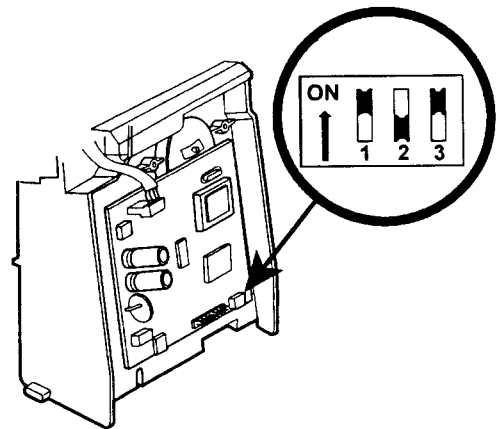

Figure 3: Location of Option Switches on TRC6512 (Shown with Control Board Cover removed)
- Set the three option switches using a retractable ball point pen or small screwdriver. Do not use a graphite pencil point. The option switches are located on the back of the flight deck assembly. (Figure 3)